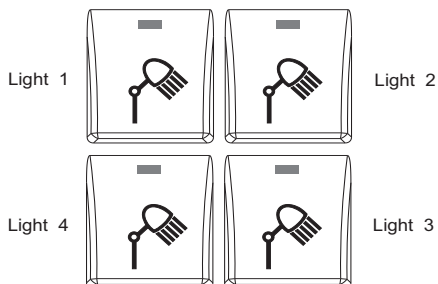

Figure 3-43. Light Fixture ON-OFF Buttons
- See Figure 3-43. Switch lights OFF (O) by pressing the light ON-OFF buttons.